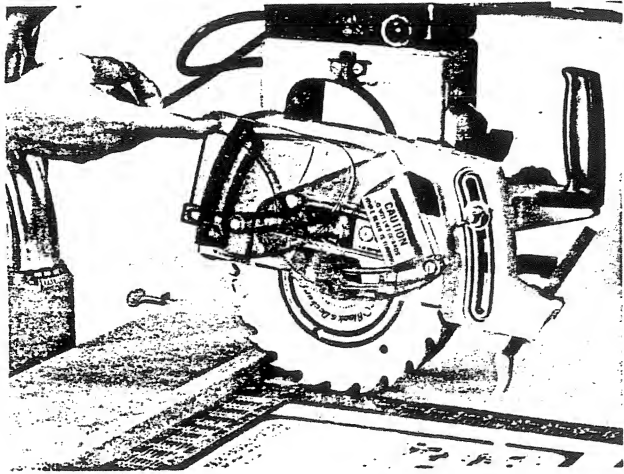

Fig. A3
3. Hold the square with your left hand and pull the saw forward (Fig. A3). If the arm is 90° the blade will stay against the square as you pull it out. If the arm is too far to the right, the blade will move away from the square. If it is too far to the left, it will push the square to the left. In either case correction is easy.